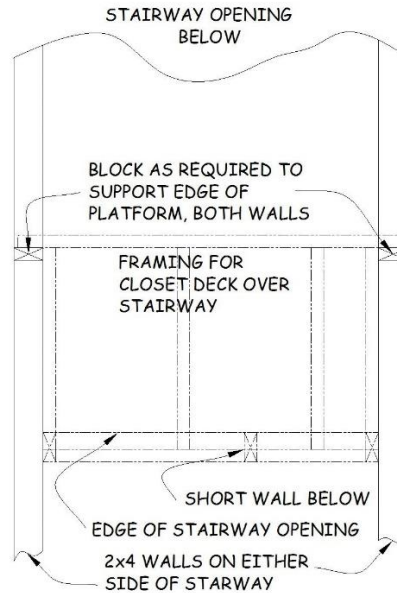

Figure 3-11. Stud Layout Around Stairway Opening.
- d. Locate the plates labeled '13³/₄" WALL/10³/₄" STUDS' and layout two end studs and one interior stud 24" o.c. (see Figure 3-11 and Section 6.4).